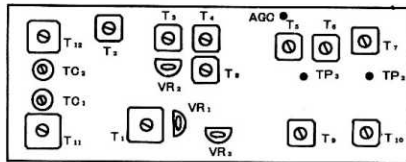
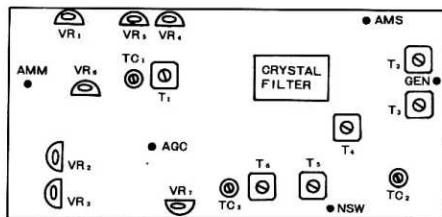

Fig. 18
Fig. 19
2) Adjust the SSG generator to produce a 145.0 MHz signal at a level anywhere between 10 and 20 dB and feed this signal into the transceiver through its antenna terminal, as shown. Throttle down the SSG output gradually until AGC disappears. Adjust T4, T5 and T6 (of the GEN unit, Fig. 19), T1, T2, T3, T4, T5, T7, T11 and T12 (of the RX NB unit, Fig. 18) in such a way that the pointer of the AF vacuum-tube voltmeter will deflect to the farthest possible position on the scale. Hold the SSG output always at such a level as will not cause the "S" meter pointer to deflect
- 1) Connect the vacuum-tube voltmeter to TP3 (Fig. 18).
- 3) Minimize the DC voltage at TP3 by adjusting T8, T9 and T10 (Fig. 18).
- 1) Adjust VR2 (Fig. 18) to make the pointer of this meter stay at "0" on the scale in the condition of non-reception of the signal.
- 3) Adjust VR1 (Fig. 18) to deflect the meter pointer to "9". Repeat the process, steps 1) to 3), two or three times.
- 2) Adjust VR7 and TC3 (Fig. 19) to minimize and equalize the "S" meter deflection for the two sideband signals, USB and LSB.
2) Adjust VR3 (Fig. 18) in such a way that the RF meter pointer will deflect to "7" (S9 position).
1) Referring to Fig. 19, connect the frequency counter and RF vacuum-tube voltmeter to the GEN terminal.
2) With MODE in FM position and STANDBY (STBY) in SEND position, adjust T3 (Fig. 19) to maximize the RF output voltage.
3) Adjust TC2 (Fig. 19) to obtain a frequency of 10.700 MHz.
6) If the frequency deviation is noted to be too narrow, enlarge it to 5 kHz by adjusting VR3 (Fig. 19).
1) Connect the RF voltmeter to the GEN terminal shown in Fig. 19.
2) With MODE set in CW position and STBY in SEND position, adjust T1 and T2 (Fig. 19) to maximize the RF voltage as read on the voltmeter.
- 4) Adjust VR5 (Fig. 19) to obtain the same output level as the FM output level previously noted.
- 5) With MODE left in AM position, adjust VR4 (Fig. 19) to obtain a 145-MHz output of 5 watts.
- 7) Supply a 1.5-kHz AG output of 2 mV, and adjust VR1 (Fig. 19) so that an AF voltage of 200 V will be read at the AMM terminal (Fig. 19).